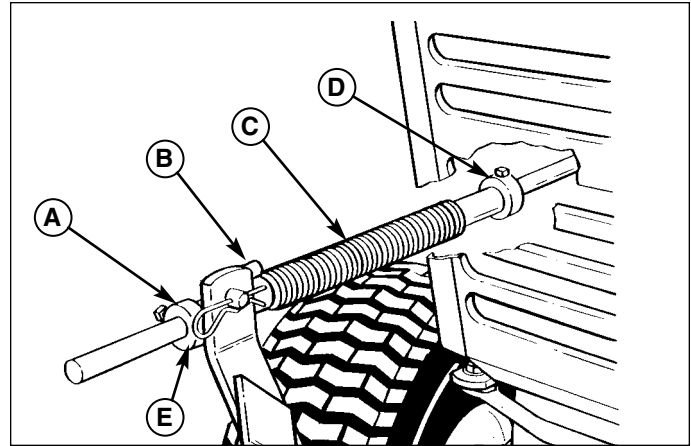

Figure 6. Adjusting Lift Rod
2. Lower the snowthrower and adjust the front set collar (A, Figure 6) to achieve the correct lift height.
2. The spring (C, Figure 6) should be slightly compressed applying downward pressure to the attachment. If not, adjust the rear set collar (D, Figure 6) to achieve the desired amount of downward force. Do not over-compress the lift rod spring.